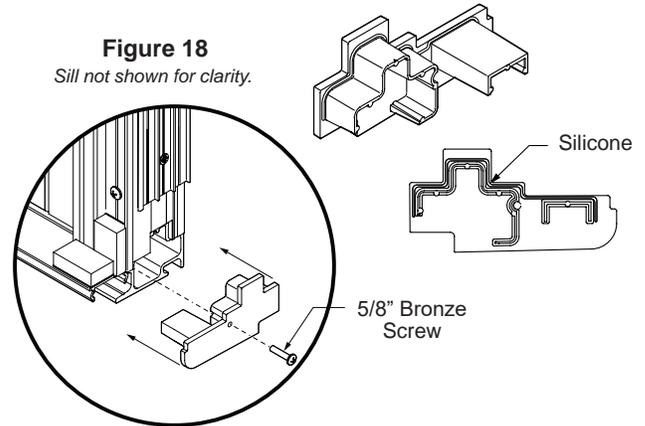

Figure 18
20. Install panel cap at base of stationary panel(s) by first applying 1/16" bead of silicone, as shown, to the cap and fastening into place with the provided #6 x 5/8" Pan Head screw (Fig. 18).